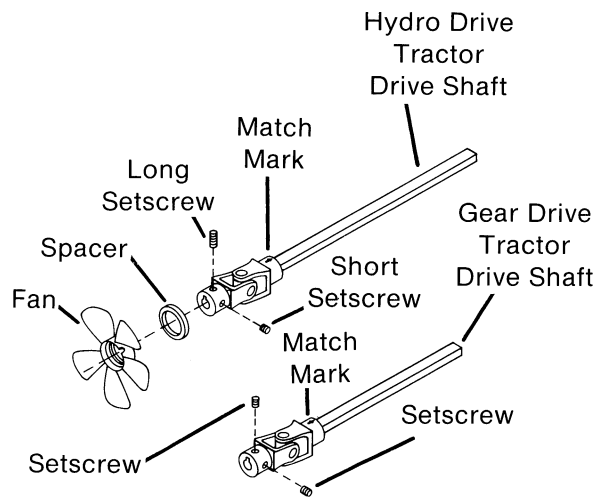

FIG. 5
- J. (Gear Drive Tractors Only) Loosen two setscrews on rear of drive shaft. (Fig. 5)
(Hydro Drive Tractors Only) Remove one long setscrew thru notch in fan hub on rear of drive shaft. Rotate fan to expose second short setscrew, loosen setscrew. (Fig. 5)
NOTE: Drive shaft is a balanced assembly and **must** be reassembled the same way it was removed. Match marks (arrows) are stamped into both front and rear universal joints, if chalk marks are not made, to insure proper reassembly. (Fig. 5)
- K. (Gear Drive Tractors Only) Loosen two setscrews on rear of drive shaft. (Fig. 5)
(Hydro Drive Tractors Only) Remove one long setscrew thru notch in fan hub on rear of drive shaft. Rotate fan to expose second short setscrew, loosen setscrew. (Fig.5)
- E. (Gear Drive Tractors Only) Loosen two setscrews on rear of drive shaft. (Fig. 5)